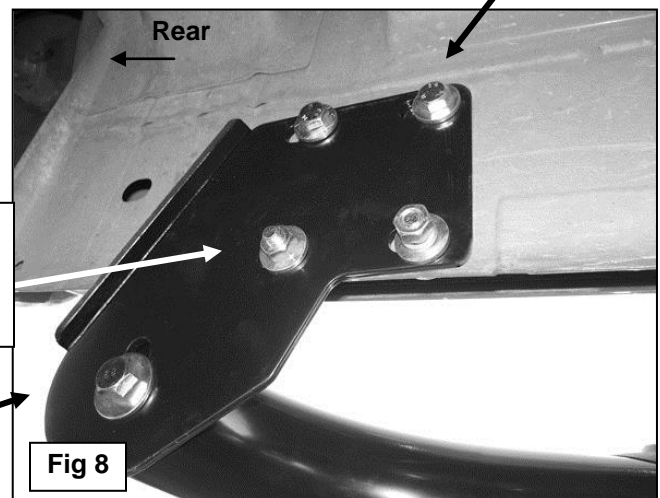

**Fig 7**
- Move to the last mounting location at the rear of the cab. Repeat **Steps 2 – 3** for Rear Mounting Bracket installation, **(Figures 6 & 7)**. **NOTE:** Each rear mounting location is made up of a rectangular hole with a round hole on each side and two holes through pinch weld, **(Figure 7)**.